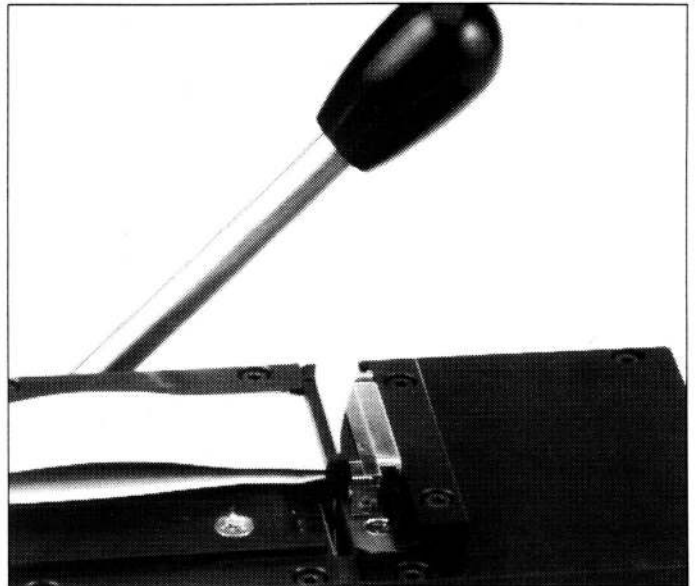

Figure 2
3. Place the cable end to be cut through the slot with the connector metal shell in contact with the connector support block located on the top of the tool (Fig.2).